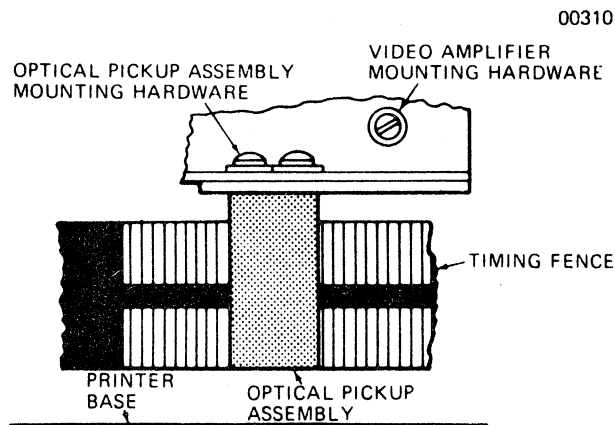

Figure 3-5. VERTICAL AND HORIZONTAL ALIGNMENT
2. Vertical and Horizontal Alignment of Optical Pickup Assembly (Refer to Figure 3-5)